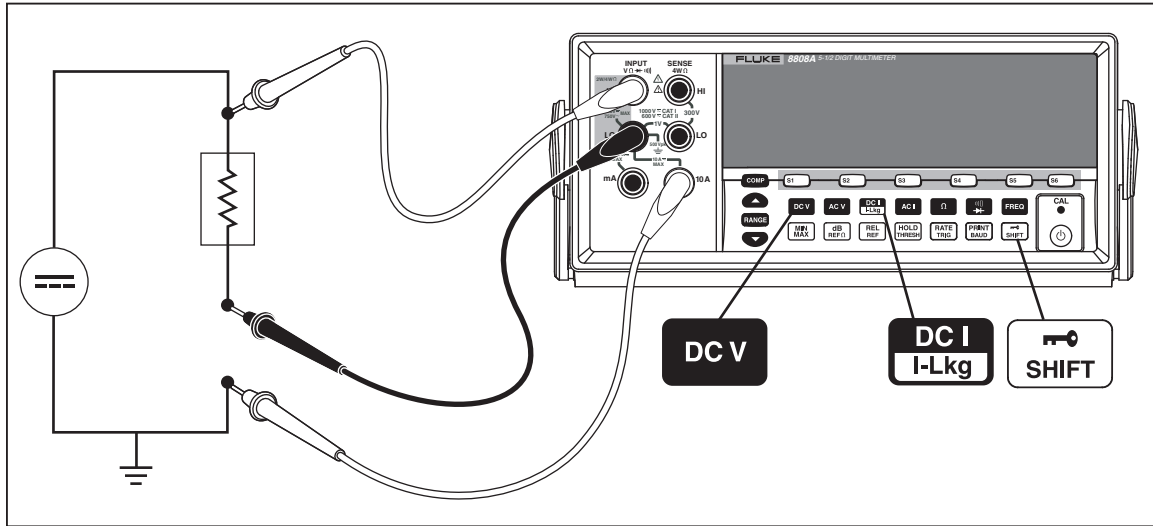

Figure A-2. DC Voltage and DC Current Measurement on Input Signal
Most applications of the dual display listed in Table A-2 can be performed using a single set of test leads connected to the **INPUT VΩ**  **HI** and **LO** terminals. However, to measure the voltage and current of an input signal requires three leads. Be sure that the voltage and current measurements share the same common as shown in Figure A-2. Then simply follow the precautions you would follow if you were making normal current measurements without a current clamp.
4. Connect the leads to the test circuit as shown in Figure A-2 and read the measurements on the display. Although current will be displayed as negative, it is in fact positive when interpreted according to current flow convention.